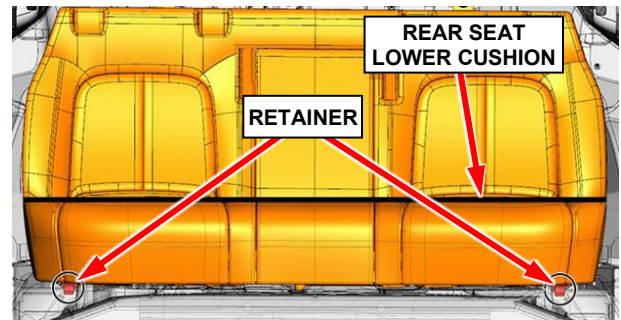

Figure 1 – Rear Seat Lower Cushion
3. Lift the rear seat lower cushion up at both front lower corners to disengage the front retainers securing the lower seat cushion to the vehicle floor (Figure 1).
4. Lift the rear seat cushion up and support it for access to the trailer tow module (Figure 1).
12. Align the rear seat cushion retainers on both front lower corners and secure the seat cushion assembly to the vehicle by pressing down on the rear seat cushion at both front lower corners (Figure 1).